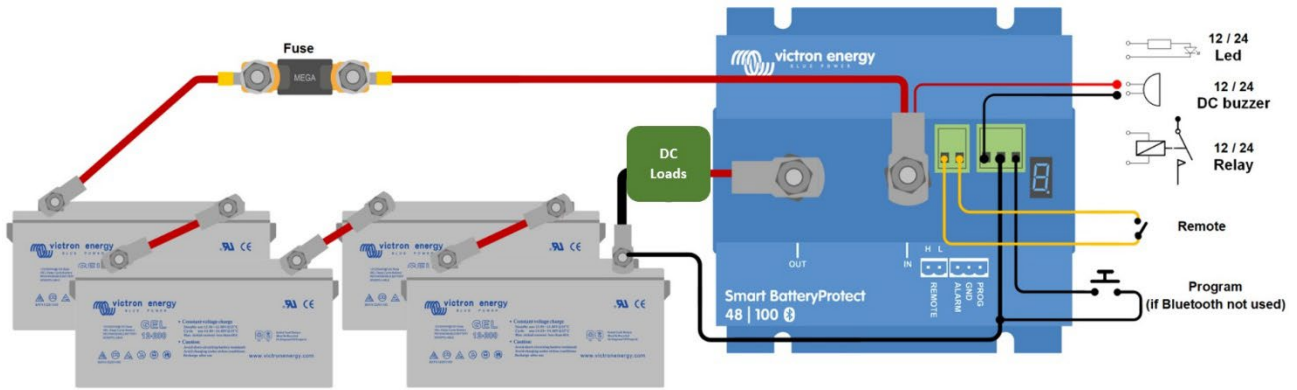

Figure 1 Connection diagram of the SBP 48|100 (use the remote input for system on/off functionality)
- A remote on-off switch can be connected between Remote H and Remote L (see figure 1). Alternatively, terminal H can be switched high (to battery positive), or terminal L can be switched low (to battery negative).
- A buzzer, LED or relay can be connected between the alarm output terminal and the battery positive (see figure 1). Maximum load on the alarm output: 50 mA (short circuit proof).
9. Een zoemer, LED of relais kan verbonden worden tussen de alarmuitvoerklem en de batterij positief (zie afbeelding 1). Maximale belasting op de alarmuitgang: 50 mA (kortsluitvast)